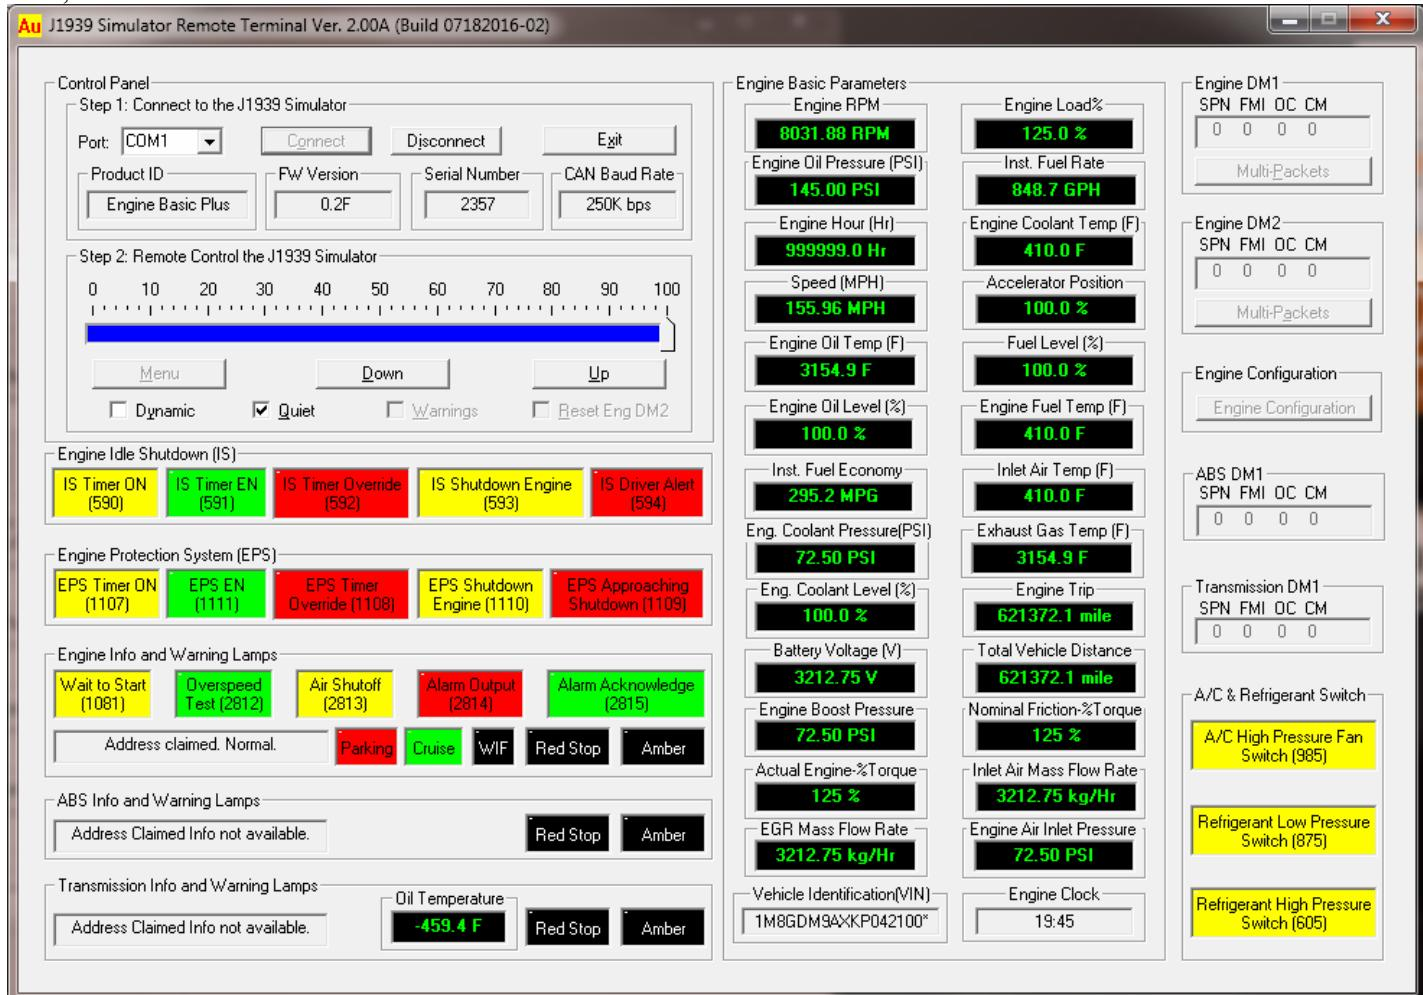

Figure 4-5
Figure 4-5 shows the J1939 Simulator Remote Terminal for *Engine Basic Plus* edition. Engine Idle Shutdown (IS), Engine Protection System (EPS), A/C & Refrigerant Switch, Engine Info, Cruise lamps, and Engine Basic Parameters are active. ABS info and Warning Lamps, Transmission Info and Warning Lamps, Engine DM1, Engine DM2, Engine Configuration, ABS DM1, Transmission DM1 are **not** available.